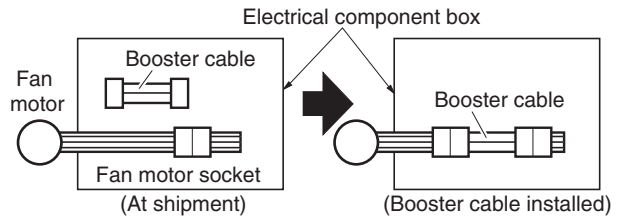

Fig. 1-114
- (1) Remove 4 screws on the electrical component box and remove the cover plate.
- (2) Disconnect the fan motor sockets in the box.
- (3) Take out the booster cable (sockets at both ends) clamped in the box.
- (4) Securely connect the booster cable sockets between the disconnected fan motor sockets in step 2 as shown in the Fig. 1-114.
- (5) Place the cable neatly in the box and reinstall the cover plate.